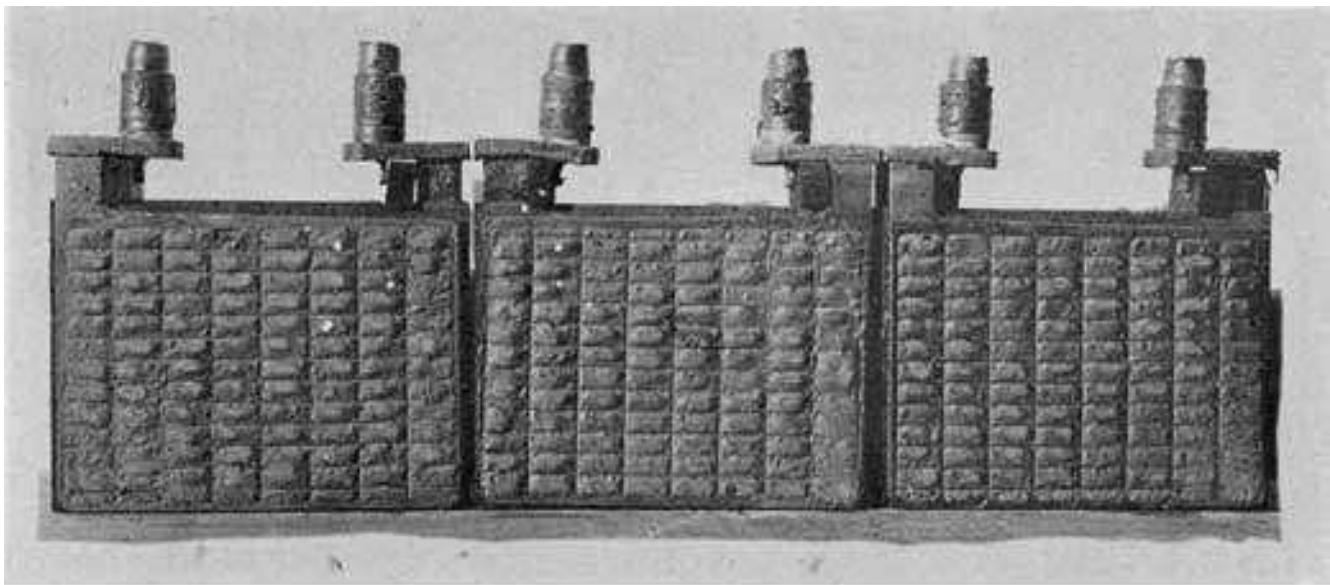

Fig. 213. Badly Bulged Negatives.
**3. "Badly bulged negative plates,** Fig. 213, cause lack of capacity because the active material is loose, and does not make good contact with the grids. If the active material is not badly granulated (having a grainy appearance) the plates call be used again. Sulphated negatives have very hard active material, and will feel as bard as stone when scratched with a knife. Hard negatives from Which active material has been falling ill lumps Oil account of being overdischarged after having been in in undercharged condition may be nursed back to life, if too much of the active material has not been lost.